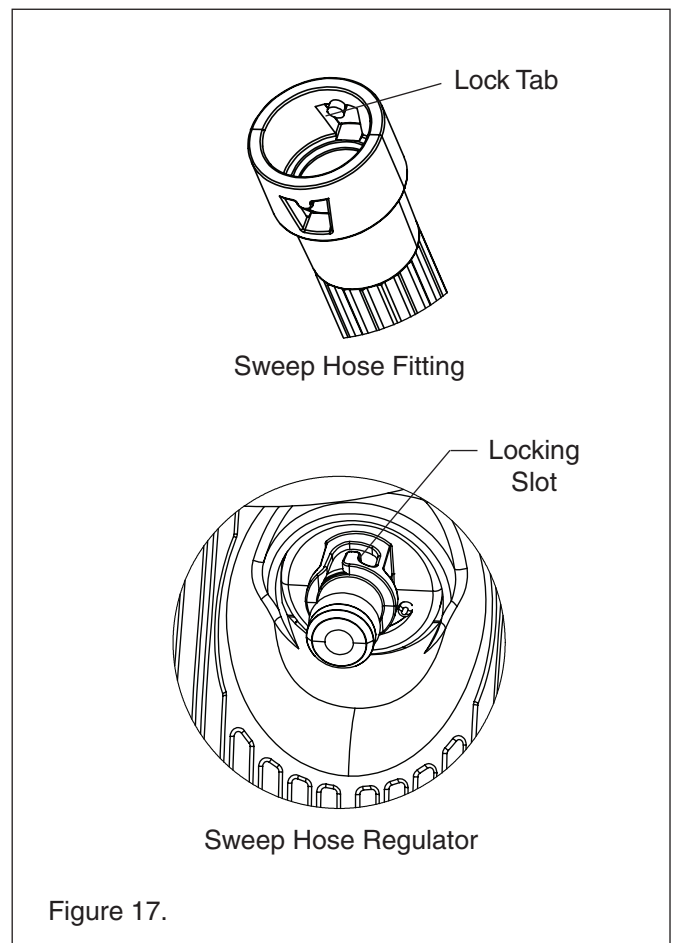

Figure 17.
2. To attach the sweep hose to the RACER™ Pressure Side Pool Cleaner, line up the lock tabs on the inside of the sweep hose fitting (small round fitting on the end of the sweep hose) to the locking slots on the cleaner's sweep hose regulator. **See figure 17.**